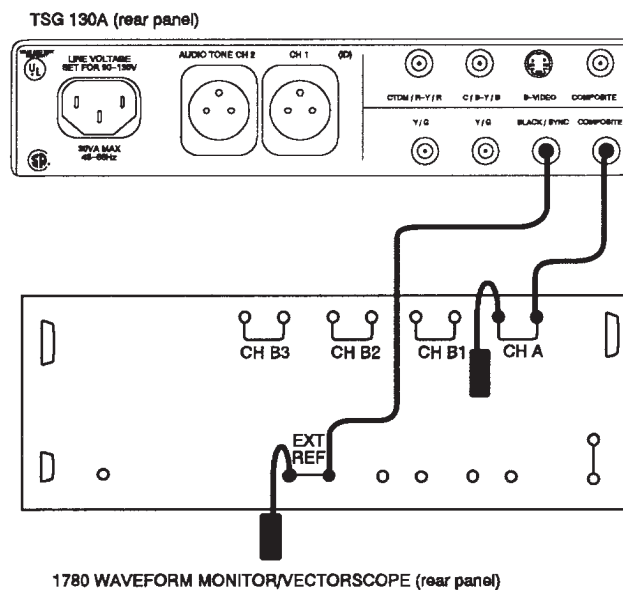

Figure 6–8: Comp sync inter-channel timing setup
- a.** Set the equipment up as shown in Figure 6–8 and select channel A as the input using external reference.